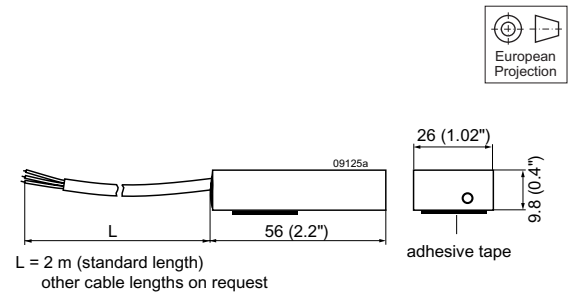

Fig. 48
- Different battery sensors S-KSMH... for using the converter as a battery charger. Different cell characteristics can be selected; see fig. 48, table 27, and *Battery Charging/ Temperature Sensors*.